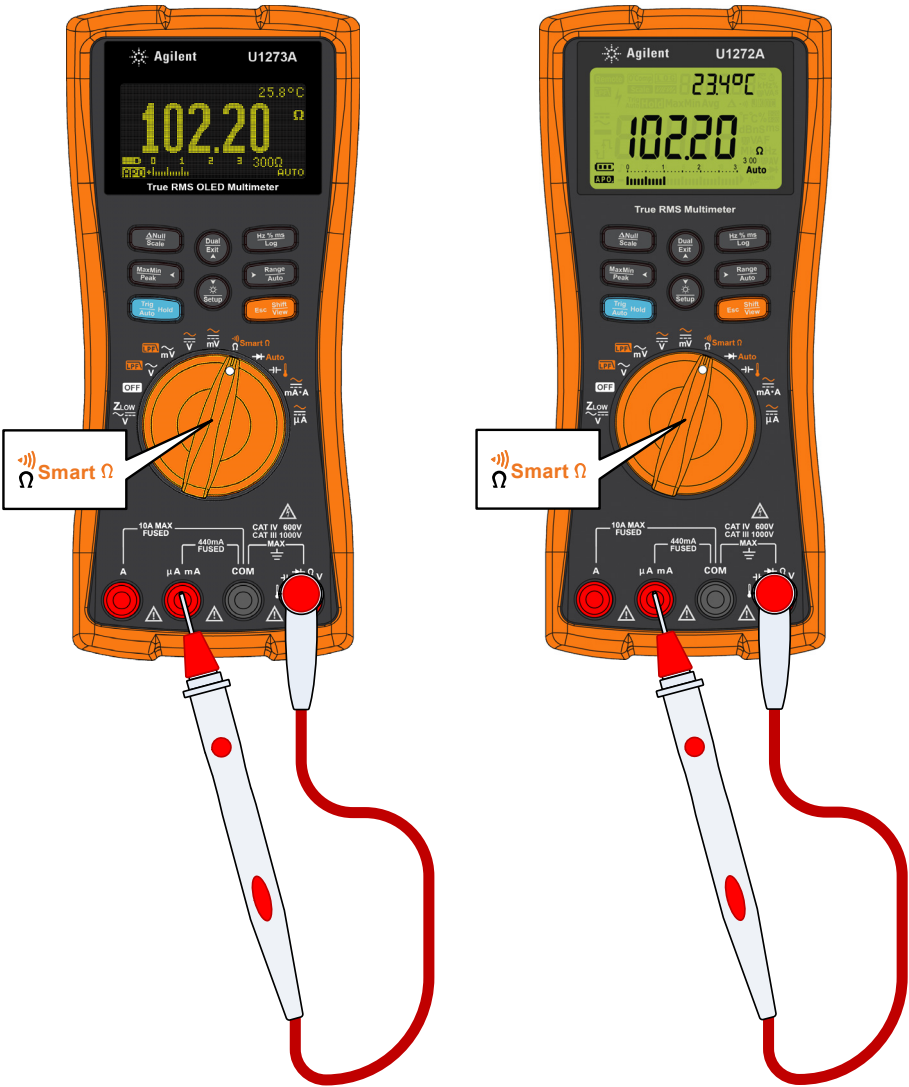

Figure 2-1 Testing Fuse 1
- 2 To test Fuse 1, place the tip of the test probe on the top half of the $\mu\text{A mA}$ input terminal. Ensure that the probe tip touches the metal inside the $\mu\text{A mA}$ input terminal, as shown in Figure 2-1.